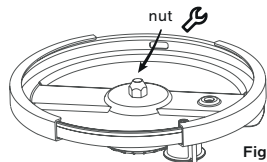

Fig. 08
- 1 - Turn the lid inwards and unscrew the hexagonal nut counter clockwise using a wrench n°17 (fig.08). Remove the nut.
- 8 - Apply the hexagonal nut and tighten it clockwise with wrench n°17 (fig08). Make sure it is tight - until you cannot turn the wrench anymore.